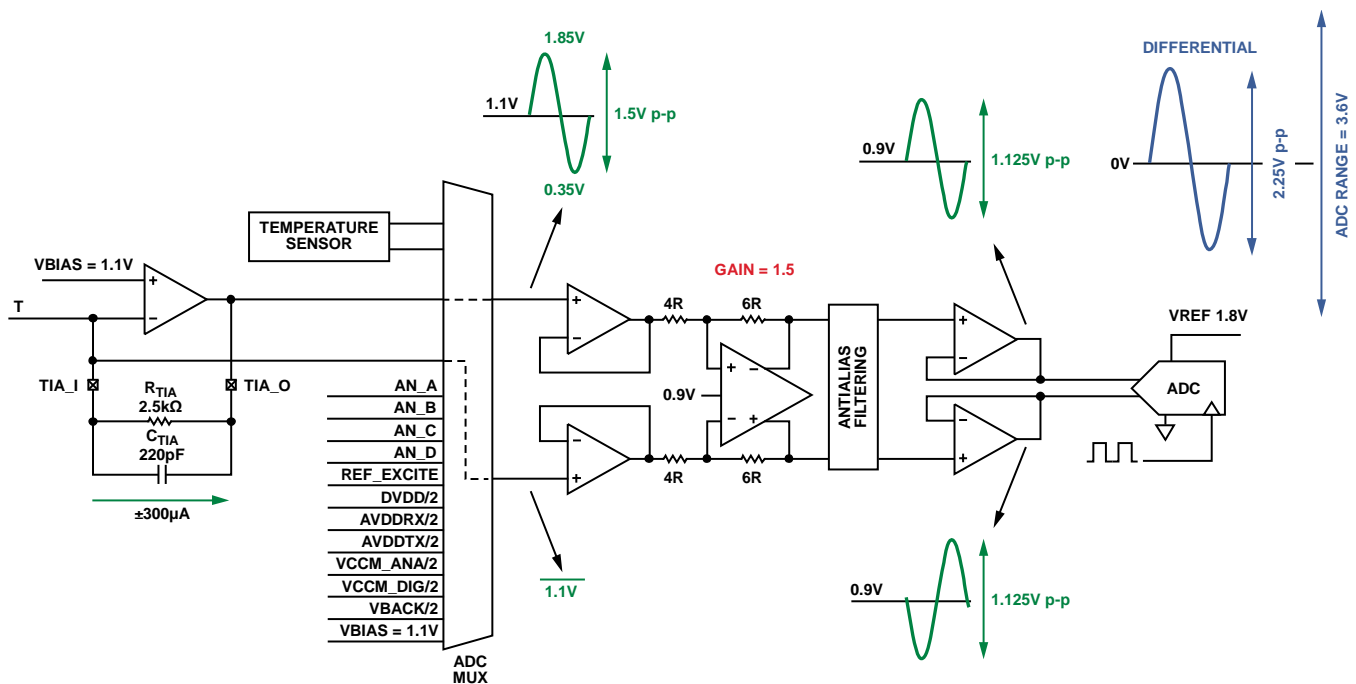

Figure 153. ADC Channel During Sensor Measurement
In Figure 153,
- Input Current Resolution = $(3.6 \text{ V}/2^{16}) \times (1/1.5) \times (1/R_{TIA}) = 14.6 \text{ nA}$, where $R_{TIA} = 2.5 \text{ k}\Omega$, as in the example in Figure 153.